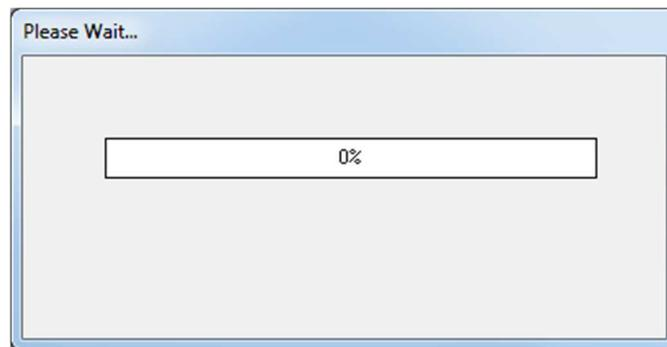

Figure 4
- Start the download of all data stored in control panel to PC. A progress bar will show the download (Fig. 4).